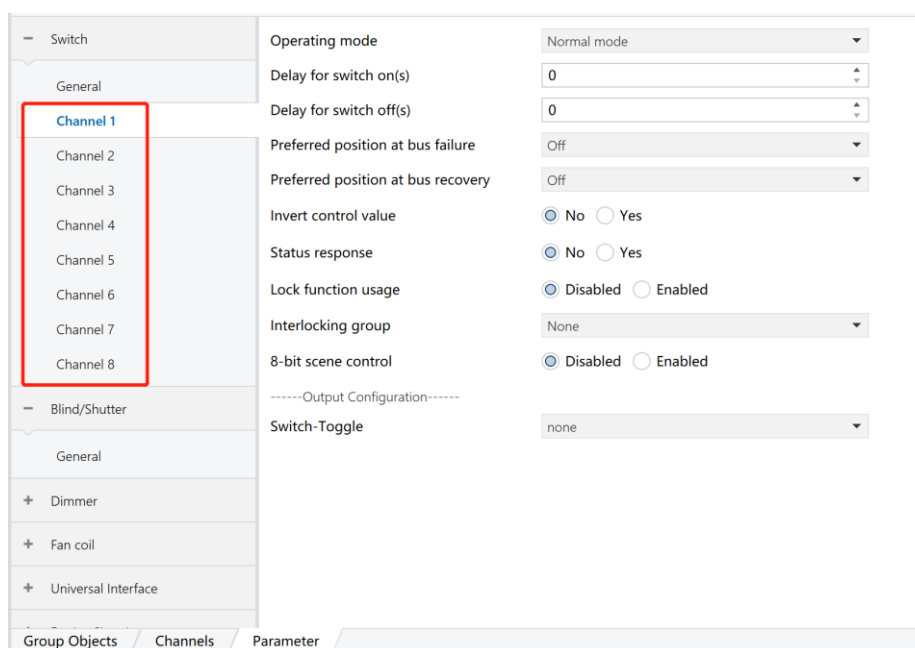

Figure 6.1.2
2) 2) After the setting is completed, the interface is shown in Figure 6.1.2, and there are 8 options in the red box as shown in the figure.